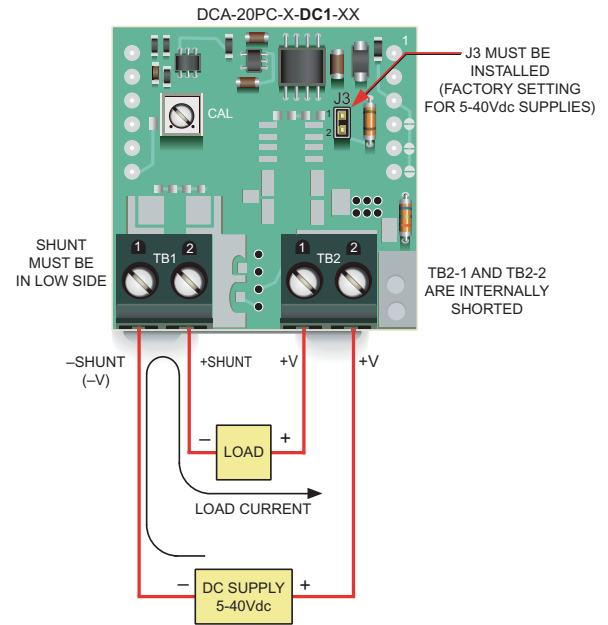

Figure 2. Low-Side Shunt Connections for "-DC1" 5-40Vdc Non-Isolated Supply Models
**Low-side shunts:** Applications that employ a single power supply to power both the load and the ammeter, and the external shunt is located in the negative side of the supply (commonly referred to as “low side” or “grounded shunt”) should use ‘-DC1’ non-isolated power DCA-20PC Series ammeters. Figures 2 and 3 depict typical low-side shunt connections.